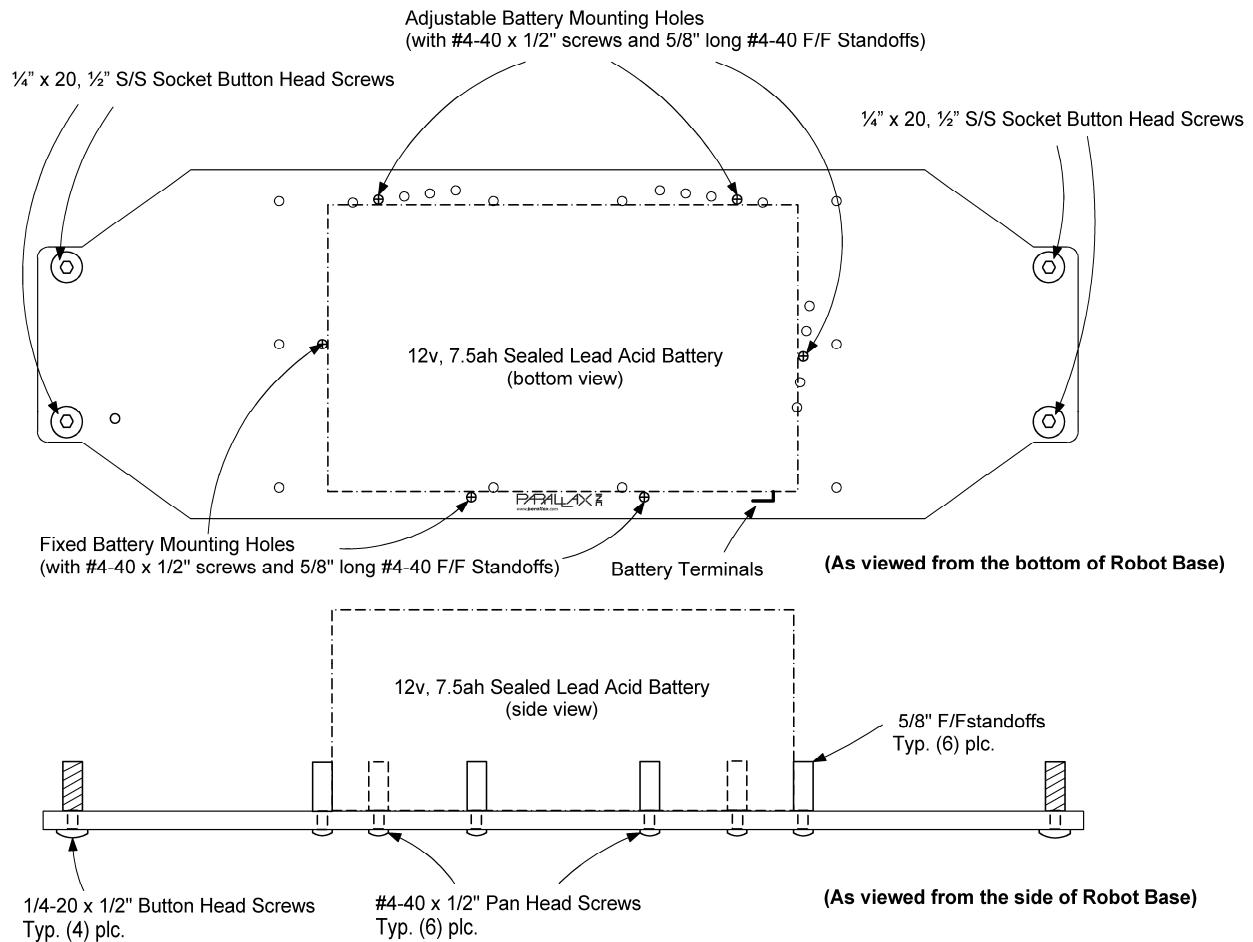

Figure 1
Step 2: Attach the Battery Shelf to the bottom of the bearing block using (4) $1/4$ -20 x $1/2$ " long stainless steel button heard screws and washers. Be sure that the Parallax logo is facing away from the bottom of the Base.
Step 3: Attach the front and rear Caster Wheel kits to each of the two sets of blind holes, using (6) 6-32 x $3/8$ " socket head cap screws. There is no need for nuts or washers. Use the (included) ball end hex wrench for this operation. Retain the hex wrench for future use—it works well if you decide to install Ping))) Ultrasonic Distance Sensor Protector Stands around the perimeter of the Base using the pre-drilled holes.
Step 4: Your battery should be well secured to the battery Shelf. Several methods can be used, including zip-ties or double-sided sticky foam tape. If you're using a standard 12 V, 7.5 Ah sealed lead acid (SLA) Battery, then refer to Figure 1. The (included) $5/8$ " F/F standoffs and #4-40 x $1/2$ " long pan head screws can hold your battery securely as shown. The staggered hole patterns accommodate slight dimensional variances between different brands of batteries.